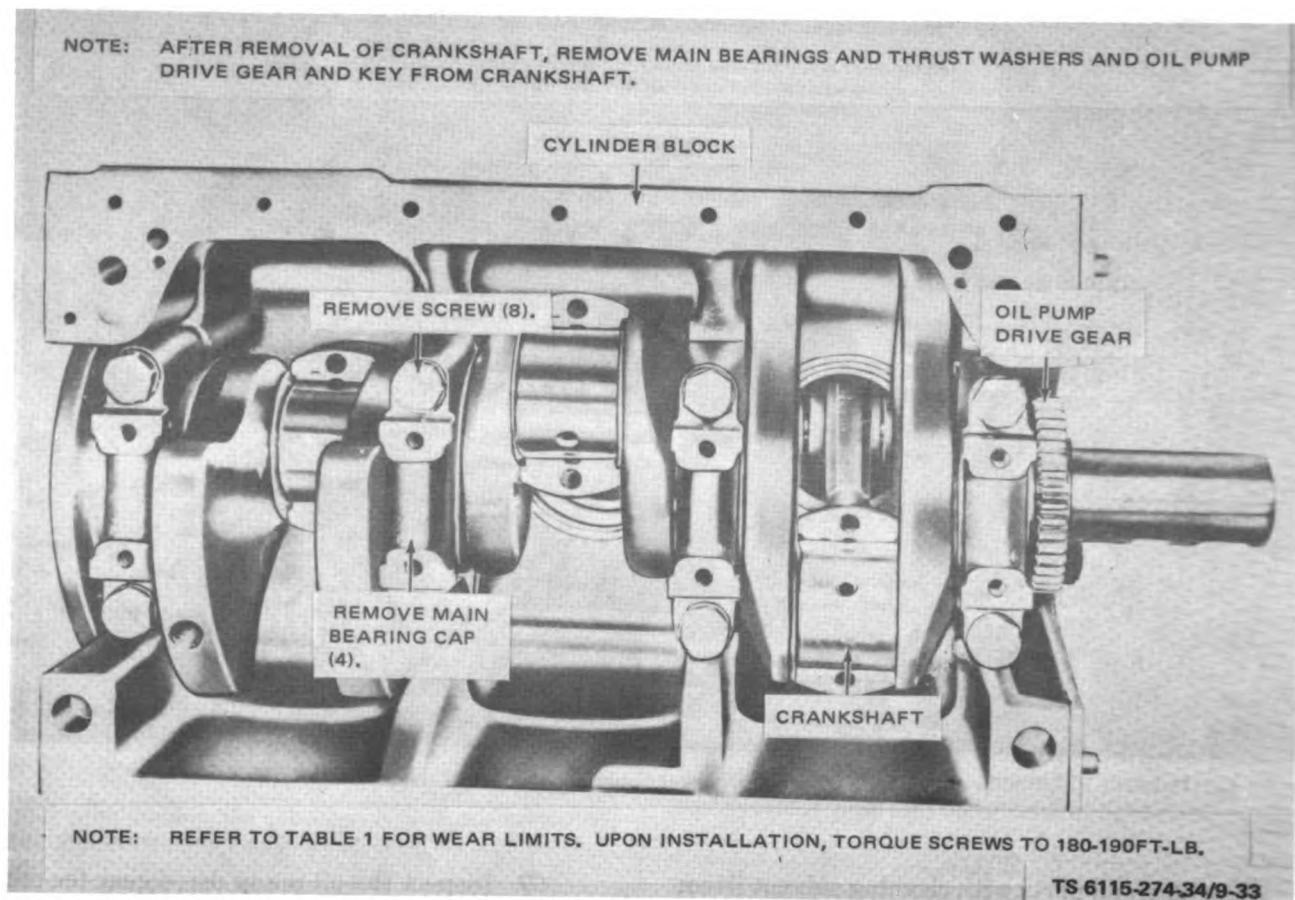

Figure 9-33. Crankshaft, Removal and Installation
(105) Remove screws and remove main bearing caps (fig. 9-33).
- (1) Install oil pump drive gear and key (fig. 9-33).
- (2) Install main bearings and thrust washers.
- (3) Install crankshaft.
- (4) Install main bearing caps. Torque screws to 180 to 190 ft-lb (24.9 to 26.3 m-kg).